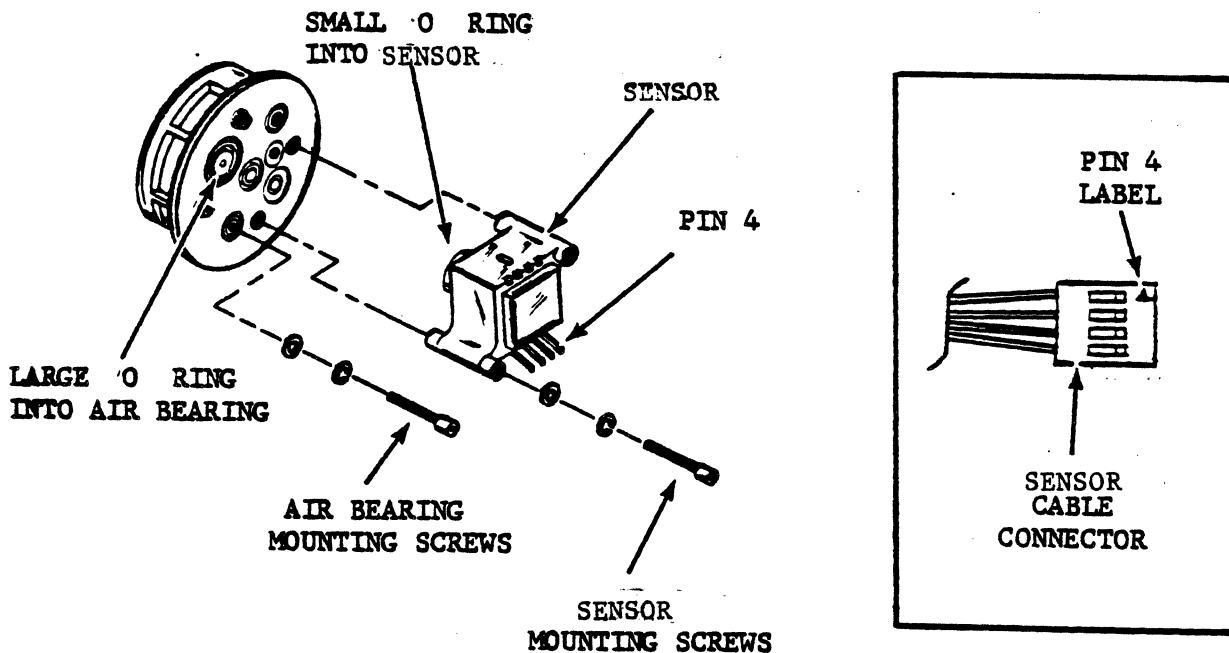

Figure 6-18. Air Bearing Sensors
3. Re-attach connector P1 to the sensor pins. Refer to figure 6-18 for pin orientation.